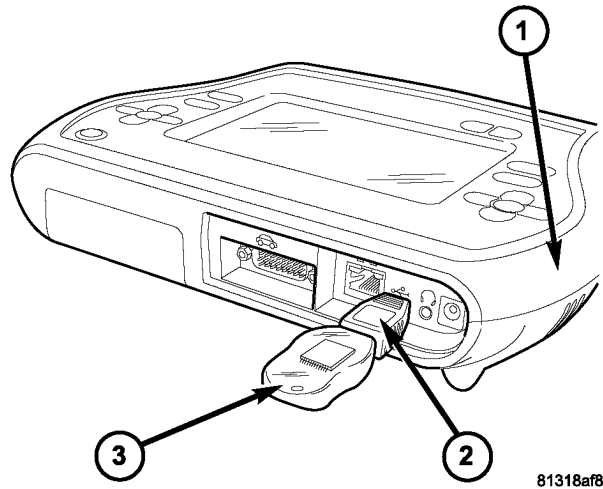

Fig. 2 USB KEY, GENDER CHANGER, AND StarSCAN®; TOOL
10. With the StarSCAN® powered OFF, connect the USB Key and Gender Changer to the StarSCAN® USB port (Fig. 2).